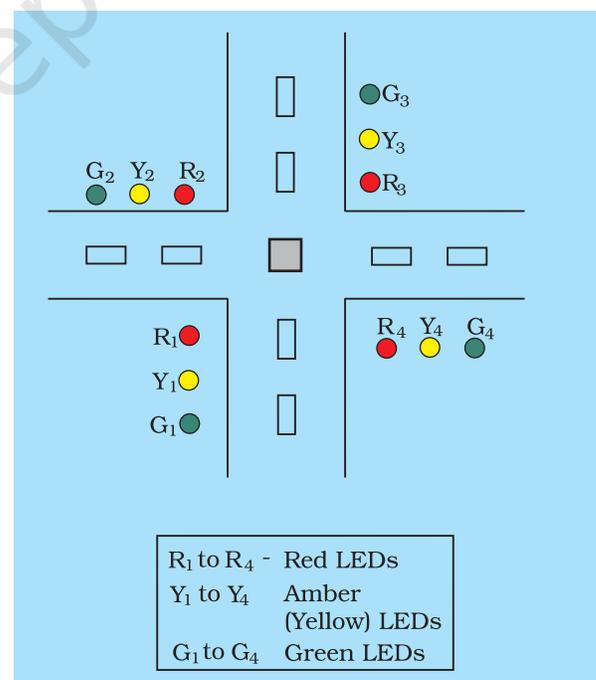

Fig. P 5.1 Schematic diagram of basic road traffic light system
The basic arrangement of traffic light system which is used at a common road-crossing is shown in Fig. P 5.1.
1. Connect the components as per the circuit arrangement shown in Fig. P 5.1.